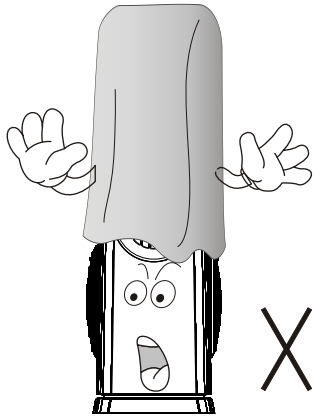
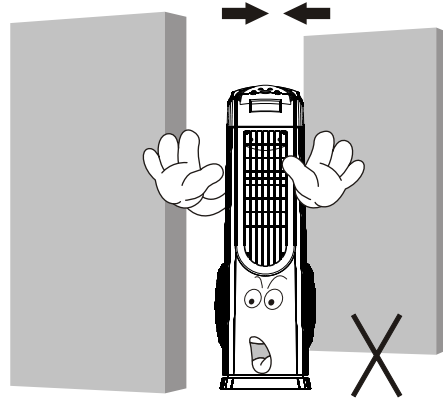

Fig.12
Fig.13
- Do not place any weight on top of the unit. The air outlet must not be obstructed (Fig.12). Please ensure that the unit is placed in an area where there is at least one meter of clearance from other objects to provide sufficient air flow (Fig.13).